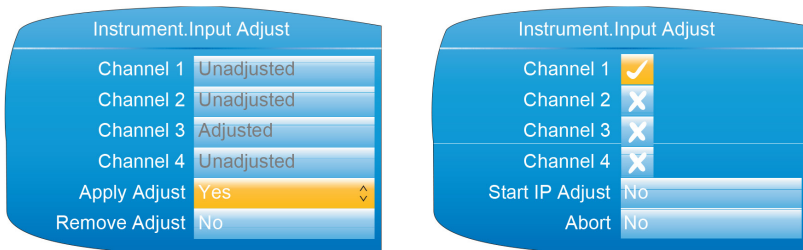

Figure 4.1.9b Channel adjustment procedure (1)
1. As shown in figure 4.1.9b, highlight the 'Apply Adjust' field, and operate the scroll key to enter edit mode. Use the up or down arrow key to select 'Yes'. Use the scroll button to change Channel 1 'cross' to a 'tick' (check mark). Similarly select any other channels which require adjustment.